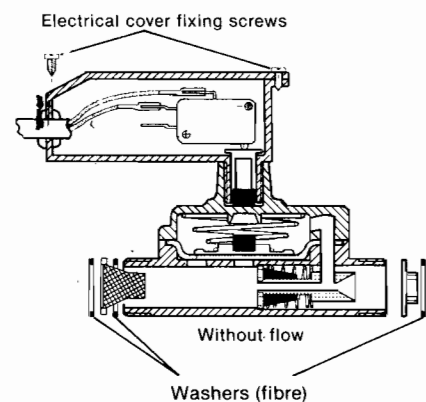

Fig. 38
- Remove the electrical cover on the flow switch, 3 screws (fig. 38).
- Re-assemble in reverse order, ensuring that the filter, flow restrictor and sealing washers are in the correct position (fig. 38). The polarity for the electrical wiring is immaterial